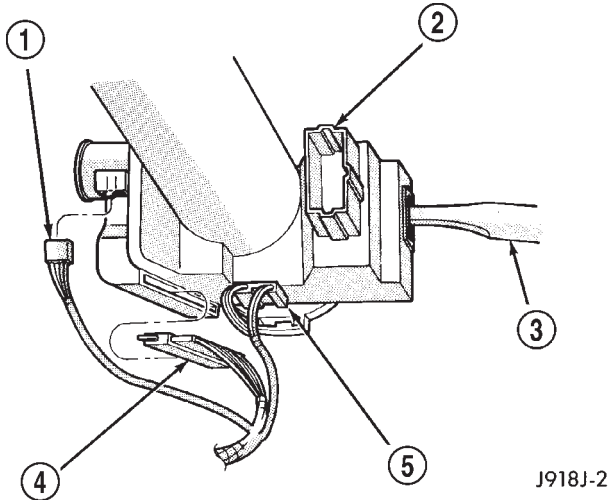

Fig. 37 Ignition Switch and Halo Lamp Connectors
(3) Gently pull switch away from column. Release connector locks on 7-terminal wiring connector at ignition switch and remove connector (Fig. 37).
(4) Release connector lock on 4-terminal halo lamp wiring connector and remove connector (Fig. 37).
(5) Disconnect electronic "PRNDL" from switch (if equipped).